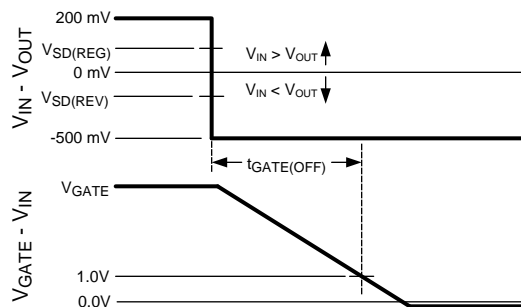

Figure 4. Gate Off Timing for Forward to Reverse Transition
(1) Measurement of V_{GS} voltage (i.e. $V_{GATE} - V_{IN}$) includes $1\text{ M}\Omega$ in parallel with C_{GATE} .
(2) Time from $V_{IN} - V_{OUT}$ voltage transition from 200mV to -500mV until GATE pin voltage falls to $V_{IN} + 1\text{V}$. See Figure 4